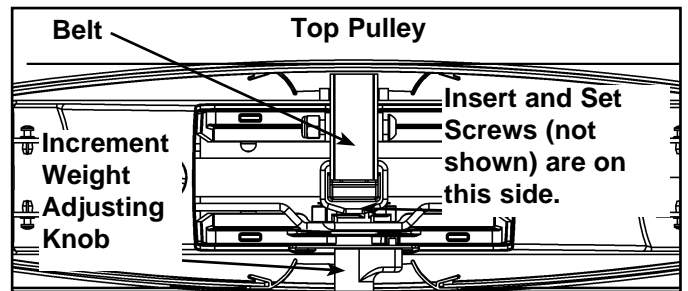

Figure 12 (top view from pulley down to belt clamp)
- F. Carefully lift top weight and verify that the position of the belt clamp (on the top weight) is aligned properly with the top pulley bracket (on the machine). See Figure 12.